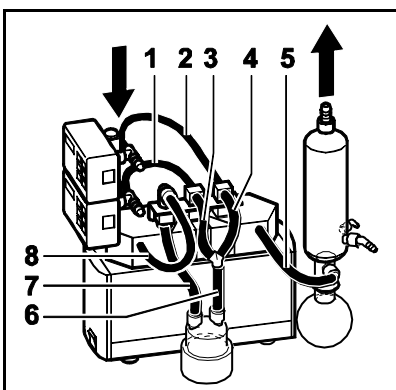

Fig. 19: Tubing system SCC
1. Slide the removed vacuum controller (2) into the slot on the new support (16) and fix it in place with the clamp connection.
2. Slide the support's attachment part into the baseplate's (17) lateral upward-pointing slotted bar.
5. Slide two additional vacuum valves(6) onto the lateral support mounting slot and fix the device with help of the clamping assembly.
6. Lay hoses for system (see fig. 19).